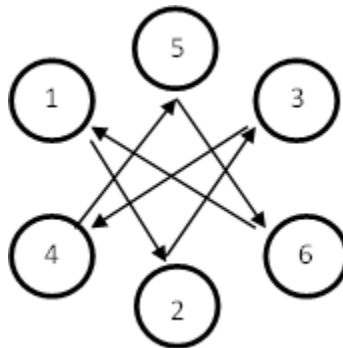
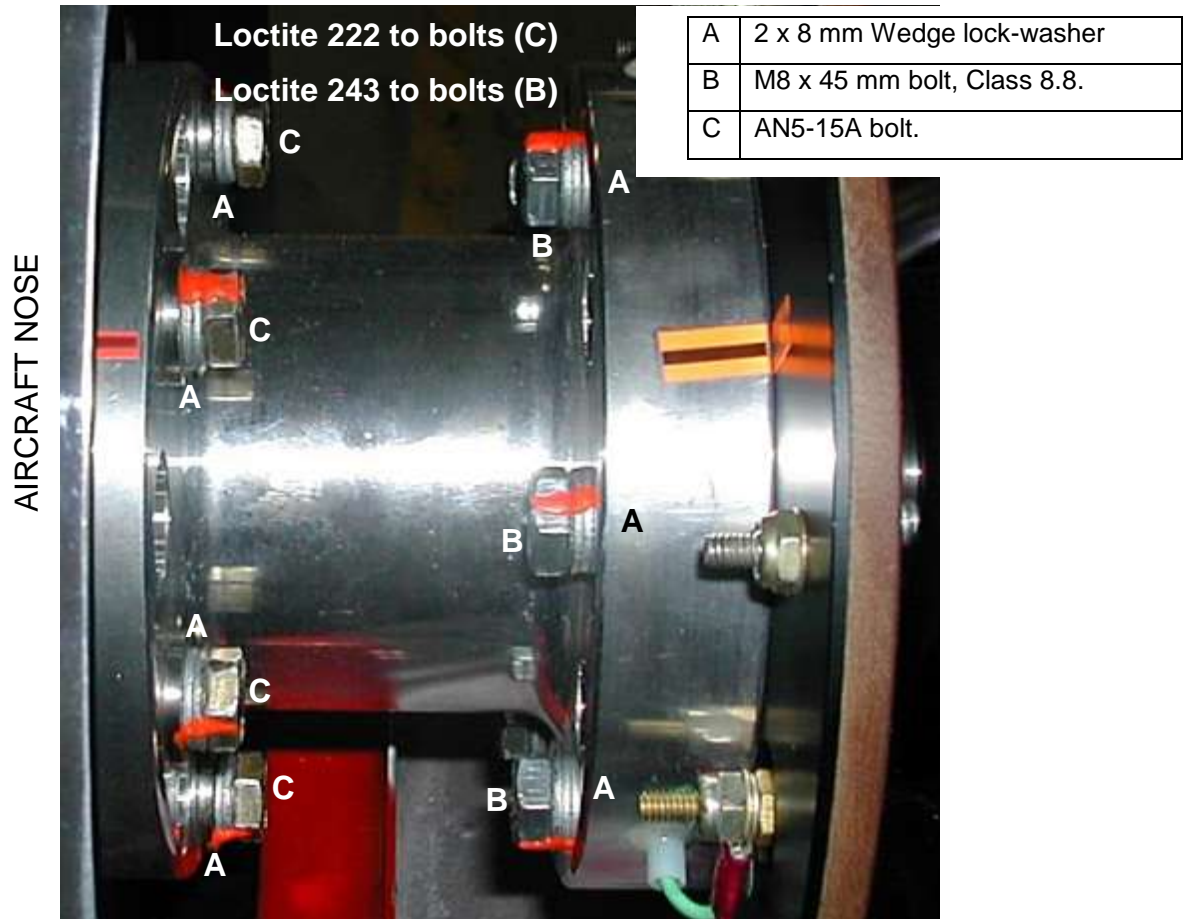

Figure 47: Propeller installation / propeller extension installation torque pattern.
Figure 50: Airmaster propeller installation (vacuum pump fitted).
Bolts / nuts should be torqued in the following sequence (as indicated in Figure 47) when securing the propeller extension to the engine hub or when securing a propeller to the propeller extension.
- Observe washer placement (refer to Figure 48). Torque the bolts to the correct value (refer to paragraph 1.5.2). Torque in a star pattern / sequence as shown in Figure 47.
- Observe washer placement (refer to Figure 50). Torque the bolts to the correct value (refer to paragraph 1.5.2). Torque in a star pattern / sequence as shown in Figure 47.